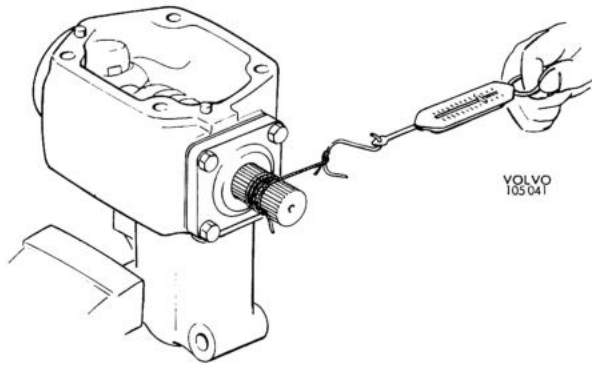

Fig. 6-57. Checking the torque
6. Check the tension with the steering cam horizontal. With correct tension, a torque of 2.3—4.6 kgcm (2.0—4.0 lb.in.) is required to turn the steering cam. The torque can be measured with the help of a spring balance and cord round the steering cam shaft (Fig. 6-57). The balance should give a reading of 2.6—5.2 kg (5.7—11.5 lb.). If necessary, adjust by removing or adding shims or gaskets.